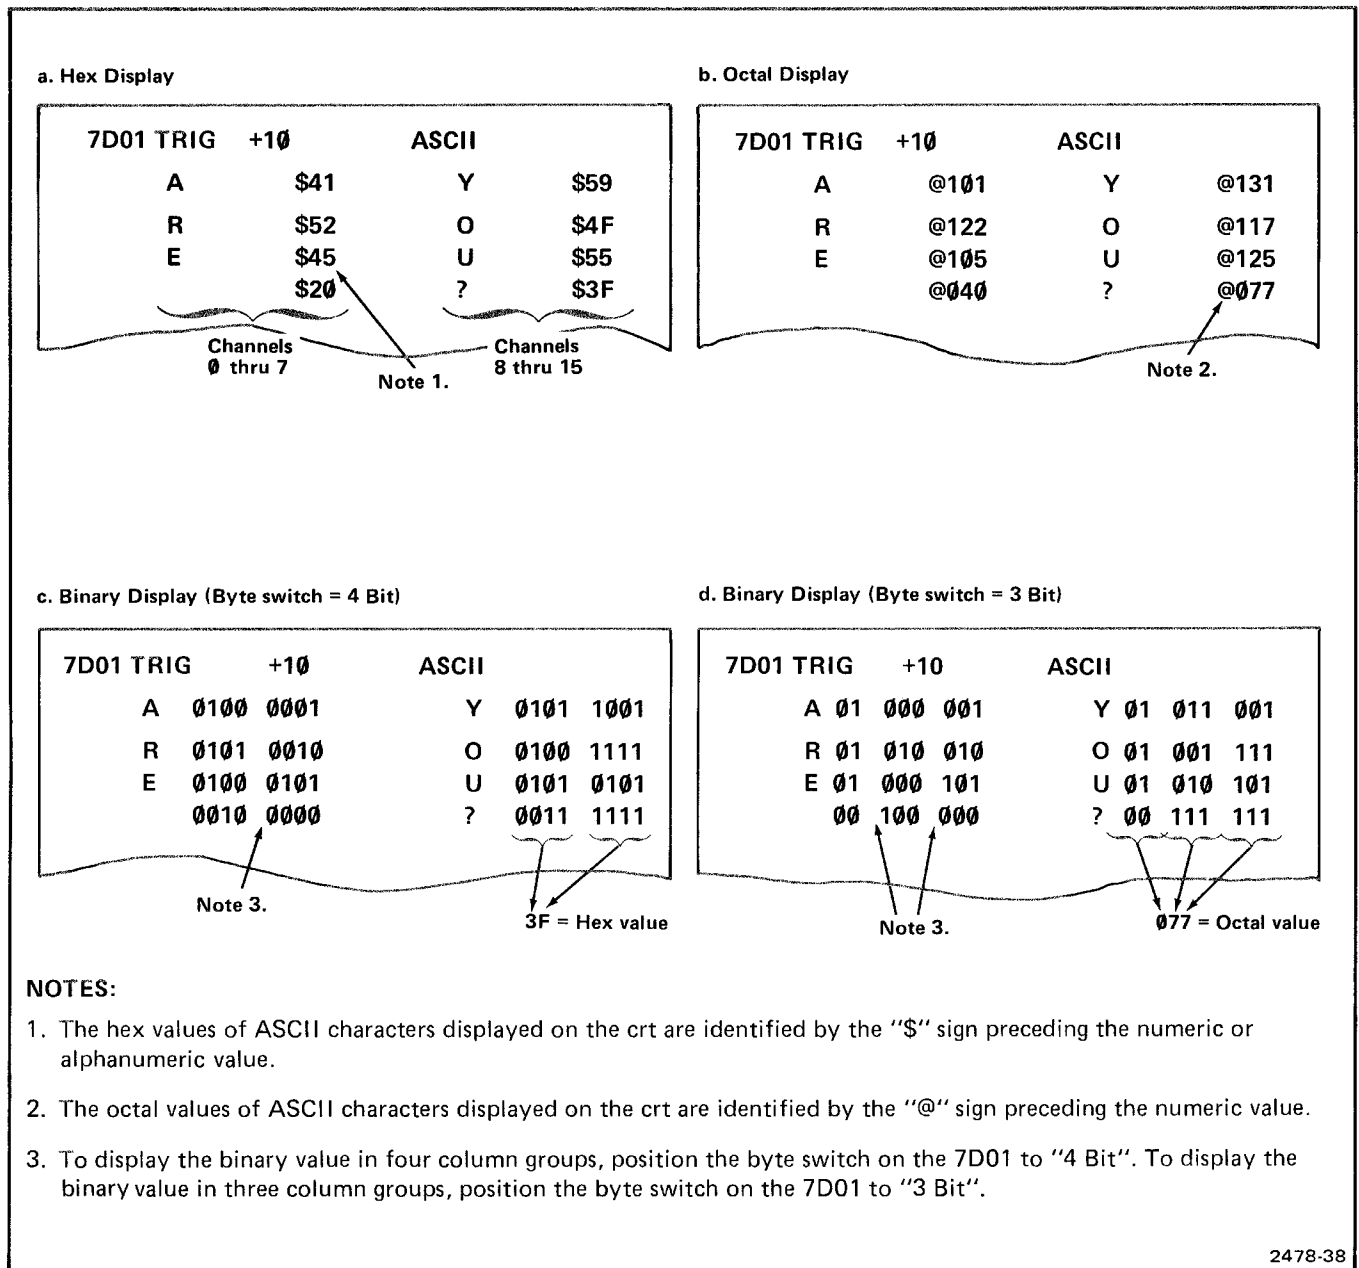

Figure 4-2. ASCII state table displays of hex, octal, and binary values.
(events) may be stored in memory. The data is displayed on both the left and right sides of the crt. The left side represents channels 0 thru 7, and the right side represents channels 8 thru 15. See Figure 4-2.
- Figure 4-2 illustrates the various state table displays (hex, octal, and binary) available with ASCII operation. Figure 4-4 and 4-5 provide tables for converting ASCII mnemonic code to equivalent hex, octal, and binary values.